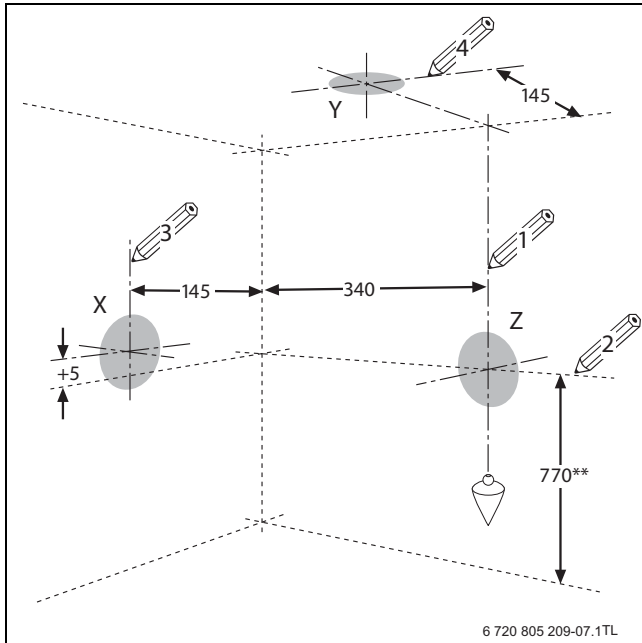

Fig. 29
- ▶ Follow figure 29 to mark the centre of the flue (1, & 2) for rear opening, (2 & 3) for side opening or (1 & 4) for top opening.